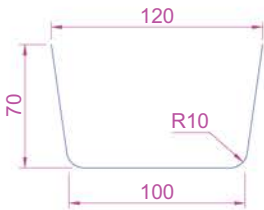

Fig. 18.30 Rulesurf – the outline
2. In the **Front** view construct the pline as shown in Fig. 18.30.